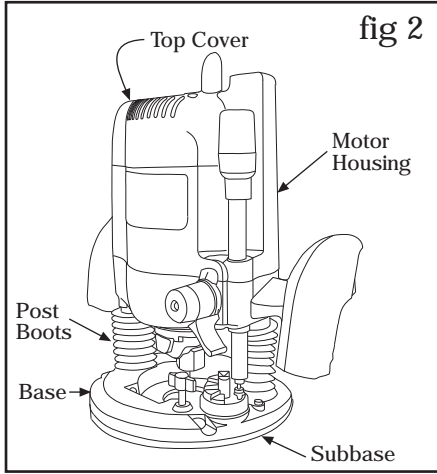
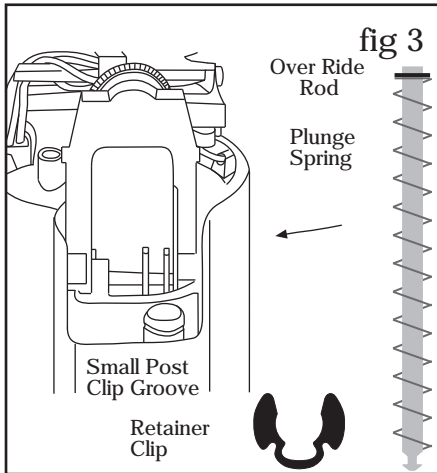

fig 2
fig 3
1. Using fig 2 remove the motor housing top cover. Using fig 3 plunge the router completely to expose the small post retainer clip and engage plunge lock. Remove the retainer clip using needle nose pliers or small screwdriver. *Set aside retainer clip for later reinstallation.*
3. Using fig 3 remove the plunge spring from the large plunge post. Remove and store the over ride rod found inside the plunge spring. *Set aside plunge spring for later reinstallation*
1. **Drilling Original Subbase.** Using (fig 2) align template mounting holes with the subbase holes. Mark the Router Raizer access point onto the subbase. Before drilling, place subbase on router base, check the Raizer access point is over the mainshaft head. When marked properly drill a 3/4" access hole through the subbase and install onto router.
2. **Drilling Top of Router Table Insert Plate.** Using (fig 3) Align template fence reference line with back edge of insert plate or fence. Place the template lettering up onto the insert or table top. Make sure router handles and controls are accessible and clear any obstacles. The template may be rotated to any position required, we recommend placing the Router Raizer access hole in front of the fence. When the template is positioned properly, center it to the insert hole by placing a compass on the template center cross lines. Rotate and size the compass until centered in insert hole. Center punch holes onto insert plate. recheck hole locations before drilling. Drill Router Raizer access hole 1/2" through insert. Drill mounting holes same as original subbase. See back of page for installing #30 dust cover insert and #31 dust cover into 1/2" Router Raizer access hole.